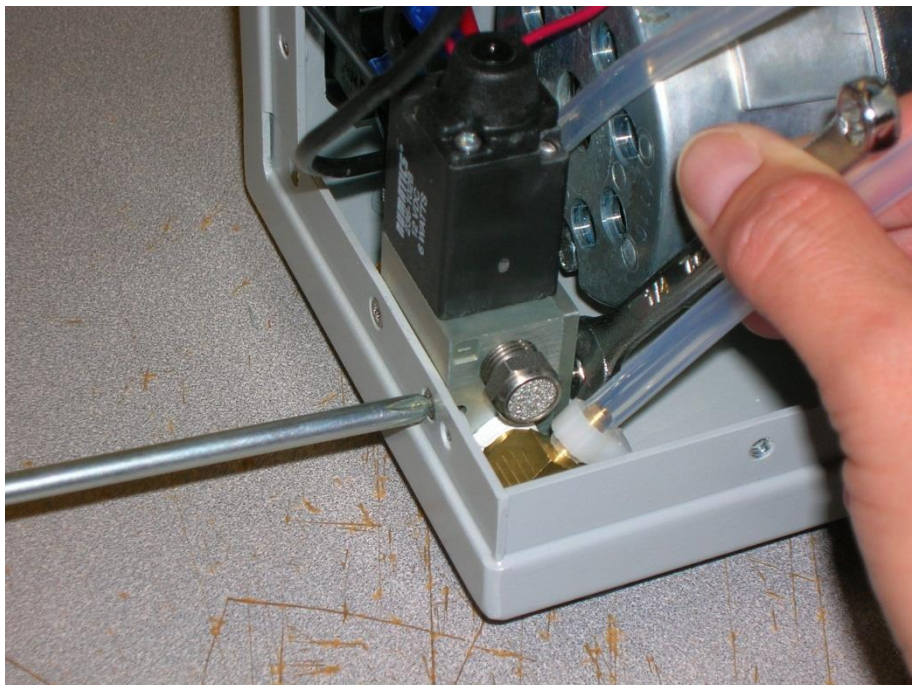

Figure 4-2
3. Remove the two screws that connect the solenoid to the casing. You do not have to disconnect the 3 black wires from the solenoid, they should be long enough to allow you to set the solenoid down on a flat surface for cleaning. See Figure 4-2.